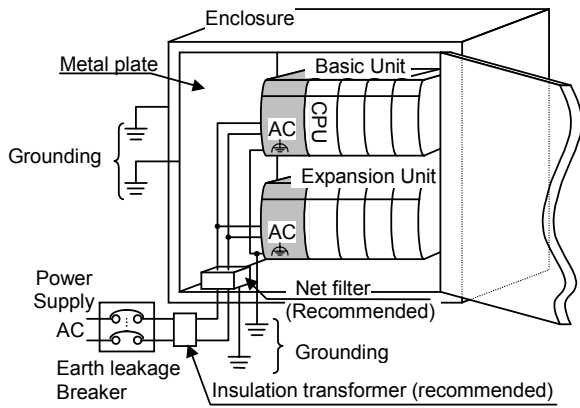

Figure 1 Power wiring example
- The basic and expansion unit should be connected to common power source and powered up together as shown in fig.1.